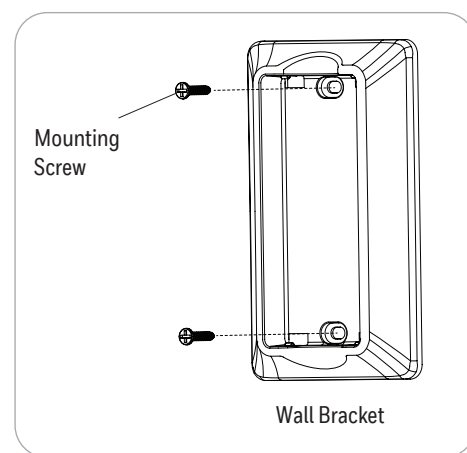

Figure 4.9
9. If desired, the wall bracket can be attached to a wall using the mounting screws (Figure 4.9).